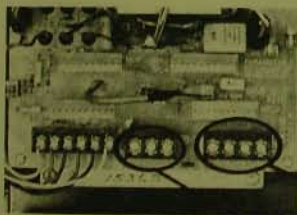

FIGURE 1
The FHP ParaJust controller operates from single phase 230 VAC input power connected to TB2 the input power terminal block. (Reference Figure 1.) (For 208 VAC operation, refer to paragraph 7.6.) A ground terminal is located on TB2 for an earth ground connection.
For the output rating refer to paragraph 2.1.3. Output voltage is proportional to output frequency, zero volts at zero frequency and 230 volts at 60 HZ. Wire size should be chosen according to local codes for motor size and for the distance between the control and the motor. Motor frame should be grounded to the controller ground lugs. Connect motor leads to TB3. Ref. Figure 1.
- Refer to paragraph 4.1, Input Power Wiring. Connect the input power wires to TB2 as shown in Figure 1. Be sure that the plant power is within the specification stated in paragraph 2.1.1.